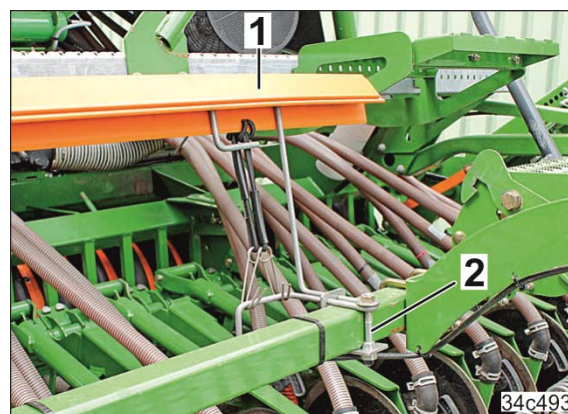

Fig. 210
1. Insert the multi-part transport safety bar (Fig. 210/1) into one-other and secure to the transport holder (Fig. 210/2) with the spring holders.